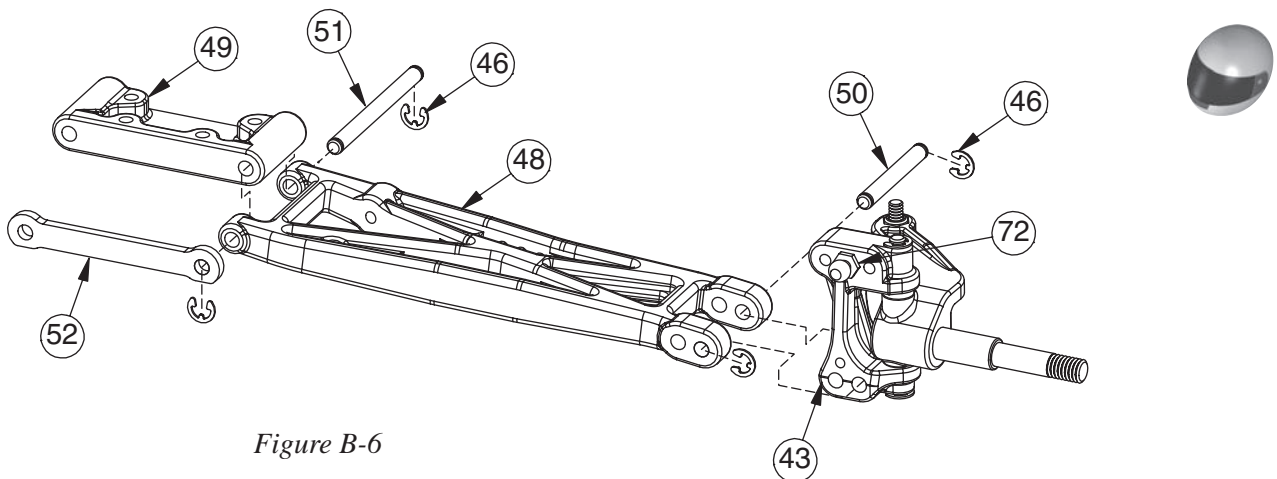

Figure B-6
- ❑ 1. Place the left Spindle and Carrier assembly (Figure B-6) into a front suspension Arm (48) as shown in Figure B-6. Note that the Spindle Arm faces the side of the suspension Arm with the Shock mount holes (rear) and the Ball Stud (72) in the Spindle Carrier is pointing forward. Line up the two sets of holes in the left Spindle Carrier (43) with the holes in the front Arm. Install a 1/8" E-clip (46) on one end of each 1/8" x .960" Hinge Pin (50) and slide it through the outer-most of the two holes in the Arm and Spindle Carrier. Attach a 1/8" E-clip to the other side of the Hinge Pin.
- ❑ 2. Install a 1/8" E-clip on one end of each inner 1/8" x 1.42" Hinge Pin (51).
- ❑ 3. Attach the Arm to the left side of the front Pivot Block (49) by inserting Hinge Pin from the back side, through the inside hole in the front Arm and Pivot Block, as shown in Figure B-6.
- ❑ 5. Slide the front Hinge Pin Brace (52) over both front inner Hinge Pins with the flat side pointing down. The E-clip grooves in both Hinge Pins should be exposed in front of the Brace. Secure the Brace by installing a 1/8" E-clip to the front of each Hinge Pin.